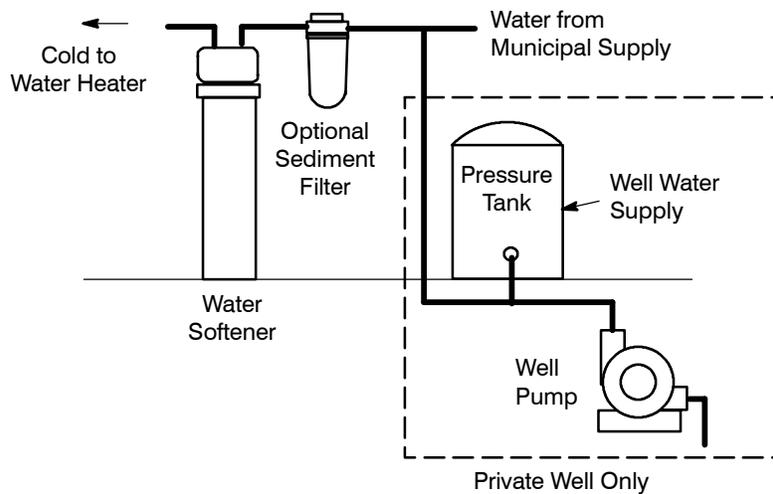

Figure 5
- **Always install the unit BEFORE the water heater** and after all other installed water conditioning equipment (see Figure 5 below).